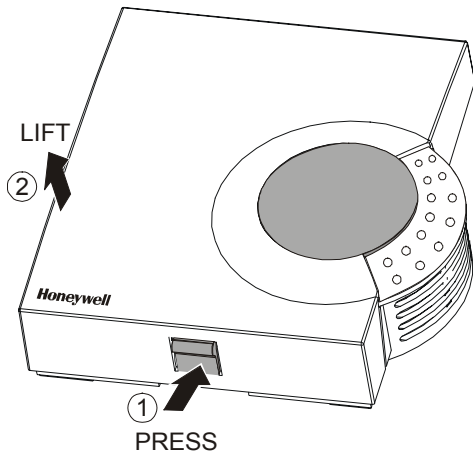

Fig. 3 Cover disassembly
1. The cover of the air quality sensor is fixed by a tab on the underside of the unit; to disassemble the cover and the subbase, see Fig. 3.